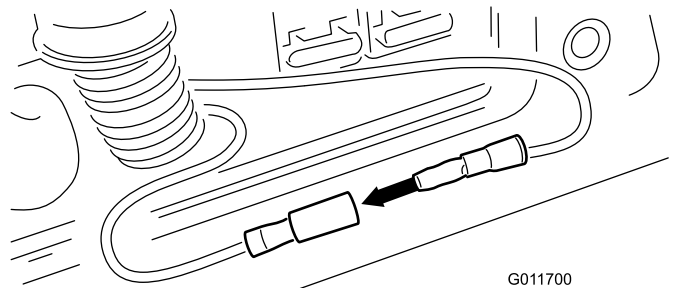

Figure 64
4. With the key in the Off position, remove the cap from jumper wires and plug the wires together (Figure 64).